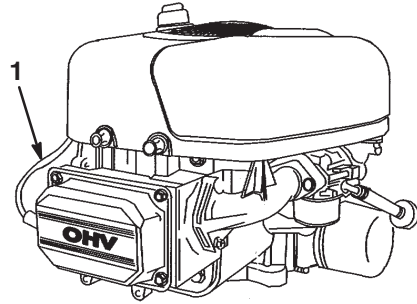

Figure 19
7. Disconnect the wire from the spark plug (Fig. 19).
3. Connect the wire to the spark plug (Fig. 19).